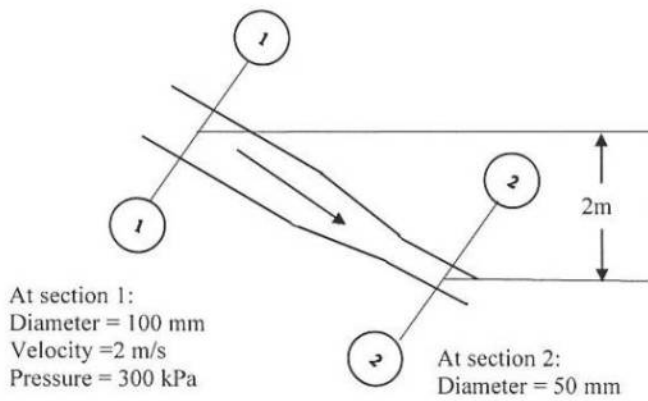

Figure- 6
- 4.(a) Consider the drag force F_D exerted on a sphere as it moves through a viscous liquid. Certainly, the size of the sphere must influence the drag force. Also, the velocity of the sphere must be important. The fluid properties involved are the density ρ and the viscosity μ . Derive an expression for the drag force on the sphere by Buckingham's π Method. (13)
- (b) Distinguish between cohesion and adhesion. (2)
- (c) Water flows from section 1 to section 2 in the pipe shown in Figure- 6. Determine the velocity of fluid flow and pressure at section 2. Assume the total head loss from section 1 to section 2 is 3.0 m. (10)